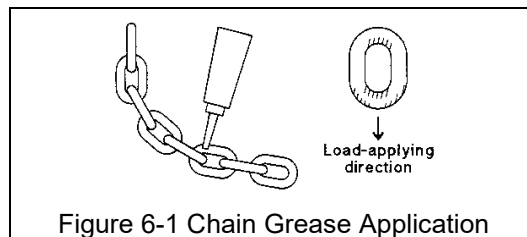

Figure 6-1 Chain Grease Application
- Apply Harrington lubricating grease (Part No. ER1BS1951) or an equivalent to industrial general lithium grease, NLGI No. 0, to the bearing surfaces of the load chain links as indicated by the shaded areas in Figure 6-1. Also apply the grease to the areas of the load chain (shaded areas in Figure 6-1) that contact the load sheave. Insure that the grease is applied to the contact areas in the load sheave pockets.
- 5) Using a C-link, attach the new chain to the end link of the old chain on the no-load side. The end link of the new Load Chain should be connected so that the welded portions of the Load Chain's standing links are oriented to the outside as they pass over the sheave. Refer to Figure 6-1.